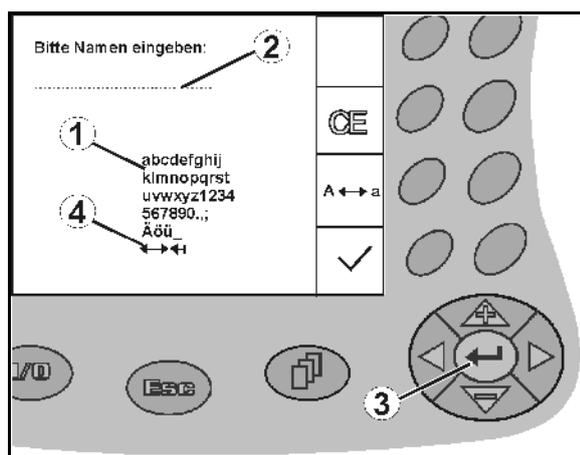

Fig. 12
If it is necessary to enter texts or numbers on the **AMATRON+**, the input menu (Fig. 12) appears.
In the lower part of the display, a selection field (Fig. 12/1) appears with letters, numbers and arrows which can be used to compose the input line (Fig. 12/2).
Choose letters or numbers in the selection field (Fig. 12/3).
- Confirm the selection (Fig. 12/3).
The arrows in the selection field (Fig. 12/4) allow movement in the text line.
The arrow in the selection field (Fig. 12/4) deletes the last entry.